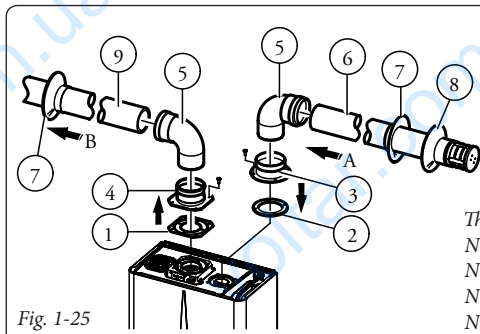

Fig. 1-25
- Kit assembly (Fig. 1-25): install flange (4) on the central hole of the boiler, fitting gasket (1) and tighten with the flat-tipped hex screws included in the kit. Remove the flat flange present in the lateral hole with respect to the central one (according to needs) and replace it with the flange (3), positioning the gasket (2) already present in the boiler and tighten using the supplied self-threading screws. Fit the male end (smooth) to the bends (5) in the female end of the flanges (3 and 4). Fit the intake terminal (6) with the male section (smooth) in the female section of the bend (5) up to the stop, ensuring that the internal and external wall sealing plates are fitted. Fit the exhaust pipe (9) with the male end (smooth) to the female end of the bend (5) up to the stop; making sure that the internal wall sealing plate has been fitted. This will ensure sealing and joining of the elements making up the kit.